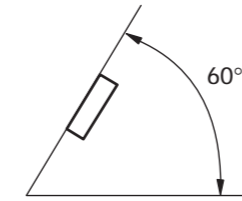

Fig. 7
- If installation angle exceeds 60° from horizontal, the unit might not give its optimum performance. (Fig. 7)